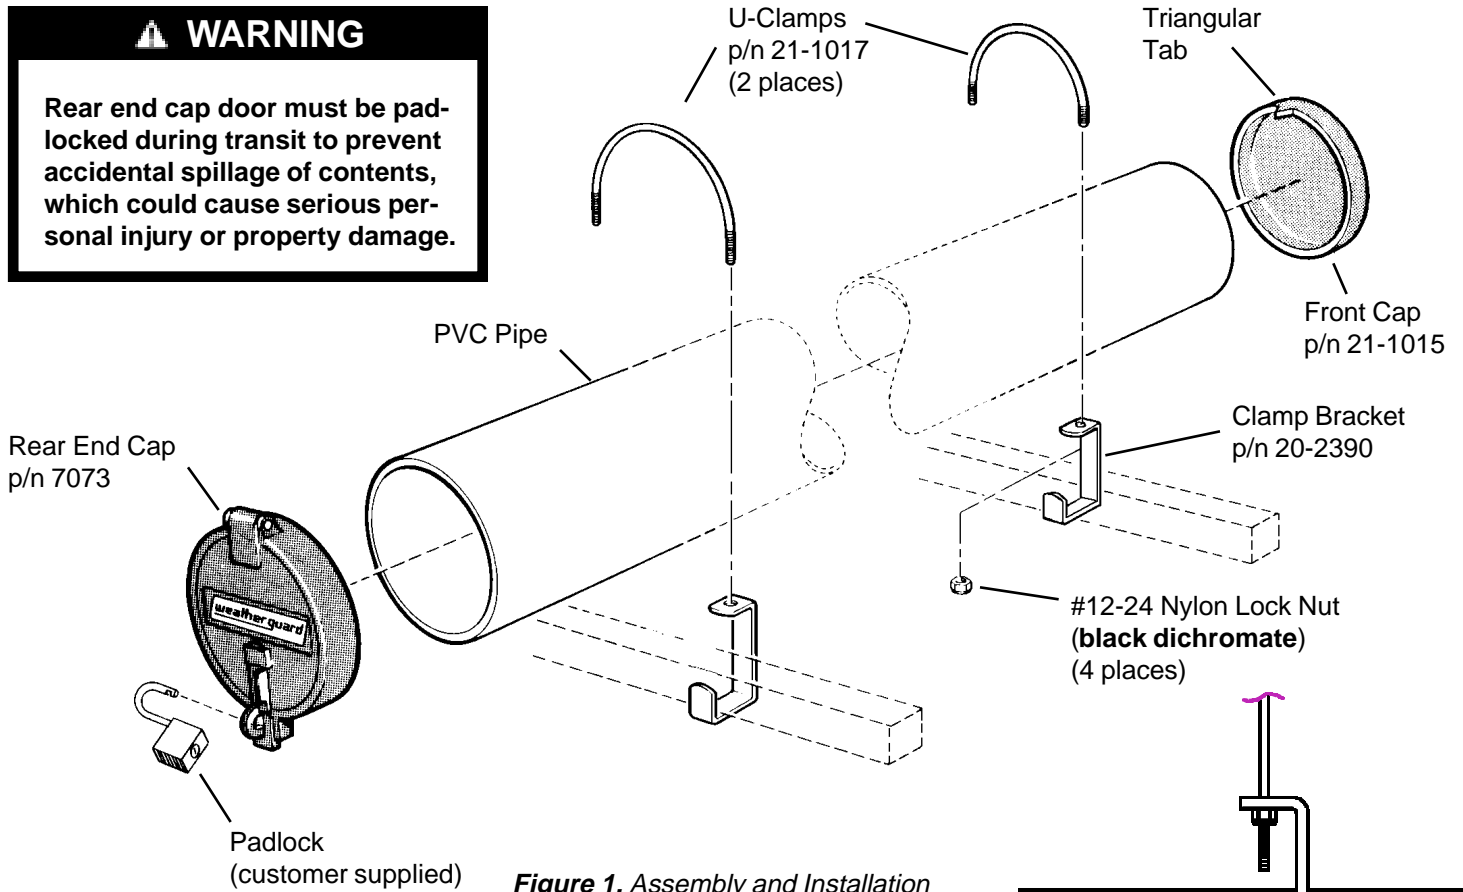
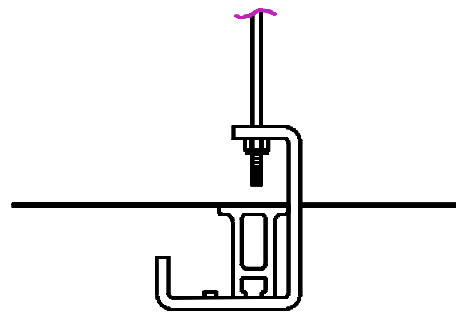

Figure 1. Assembly and Installation on a square shaped crossmember
Figure 2a. Installation on a 211 aluminum crossmember
6. To assemble the Front Cap to the PVC pipe, repeat steps 4 and 5, making sure the Triangular Tab lines up with the center of the hinge pin on the rear end cap (see Figure 1.).
7. Place the Conduit Carrier in position on your ladder rack. Install the "U" Clamps and Clamp Brackets (see Figure 1.). (See Figures 2a, 2b and 2c for installation of "U" Clamps and Clamp Brackets for your crossmember). Before tightening the nuts, make sure the conduit carrier is correctly positioned and the rear door latch is pointing down as shown in the illustration.